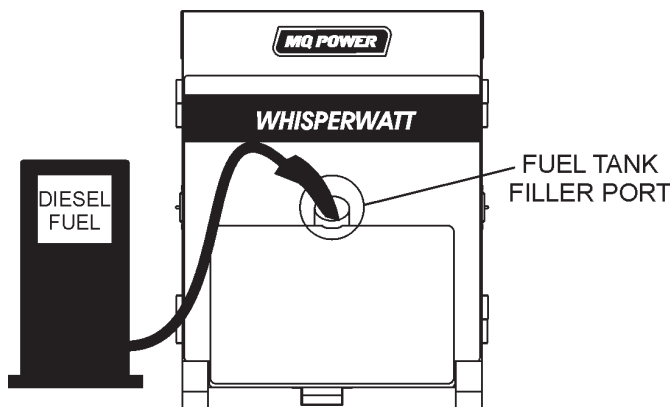

Figure 32. Fueling the Generator
2. Remove fuel cap and fill tank with clean fresh #2 diesel fuel (Figure 32).